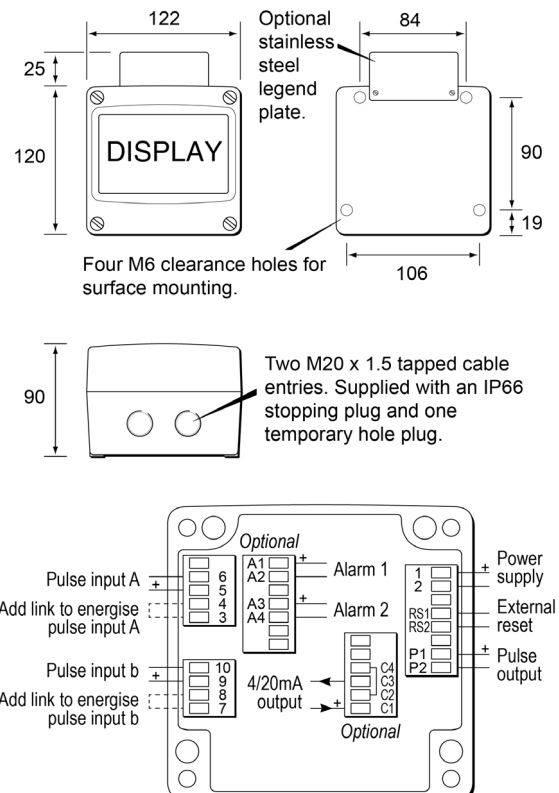

Fig 7 Dimensions and terminal connections
Field wiring terminals are located on the rear of the Rate Totaliser assembly as shown in Fig 7.
- Pass the field wiring through the cable entry in the back-box and connect it to the instrument terminals as shown in Fig 7. Replace the instrument assembly on the back-box and evenly tighten the four 'A' screws.